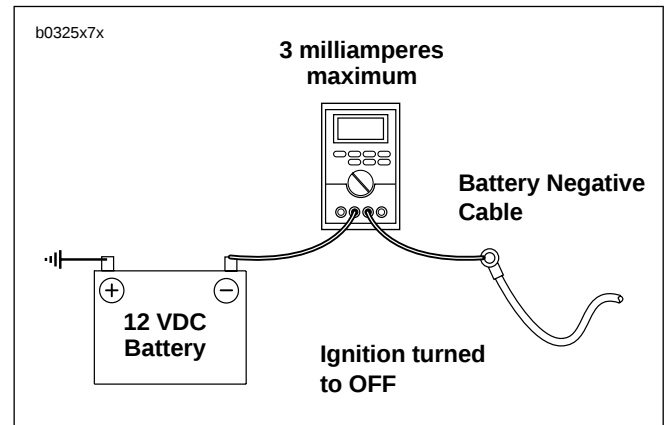

Figure 7-21. Milliampere Draw Test
1. See Figure 7-21. Connect ammeter between negative battery terminal and battery. With this arrangement, you will also pick up any regulator drain.